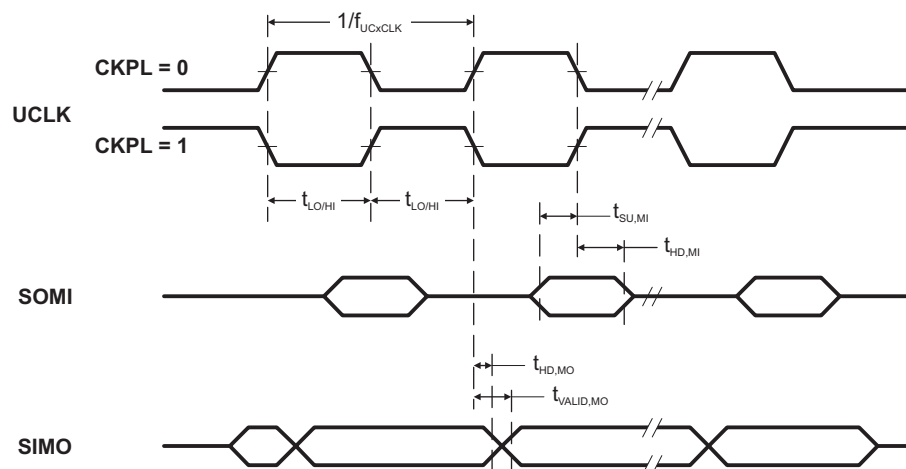
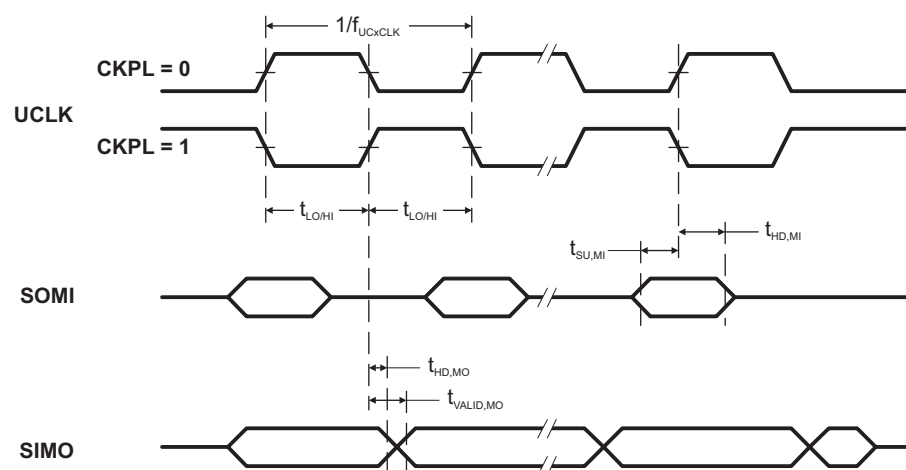

Figure 8. SPI Master Mode, CKPH = 0
Figure 9. SPI Master Mode, CKPH = 1
(see Note ⁽¹⁾, Figure 8 and Figure 9)
- (2) Specifies the time to drive the next valid data to the SIMO output after the output changing UCLK clock edge. See the timing diagrams in Figure 8 and Figure 9.
- (3) Specifies how long data on the SIMO output is valid after the output changing UCLK clock edge. Negative values indicate that the data on the SIMO output can become invalid before the output changing clock edge observed on UCLK. See the timing diagrams in Figure 8 and Figure 9.
(2) Specifies the time to drive the next valid data to the SOMI output after the output changing UCLK clock edge. See the timing diagrams in Figure 8 and Figure 9.
(3) Specifies how long data on the SOMI output is valid after the output changing UCLK clock edge. See the timing diagrams in Figure 8 and Figure 9.